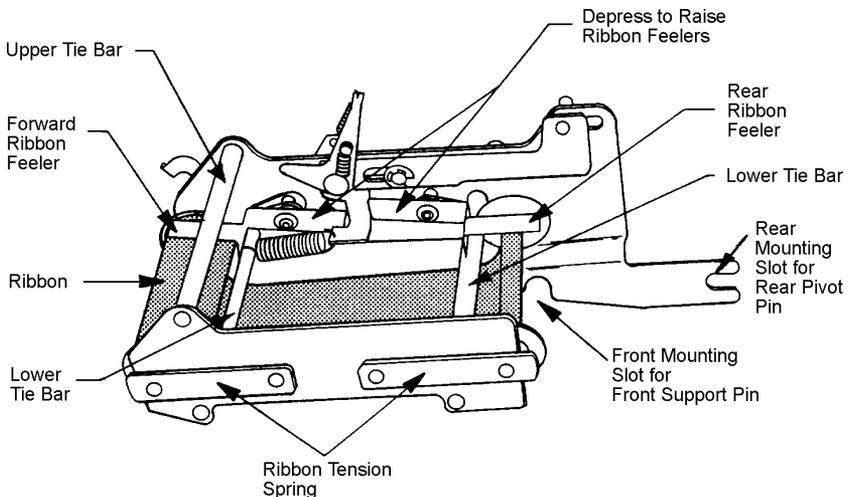

FIGURE 5
4. Place the ribbon drive mechanism on a clean sheet of paper with ribbon facing down. (See Figure 5). NOTE: It is necessary to remove the ribbon/spools one at a time.